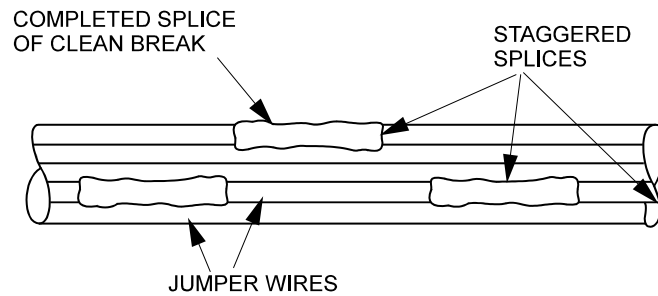

Figure 6-16
- r. As illustrated by Figure 6-16, position repaired wires into a bundle ensuring the splices remain staggered.